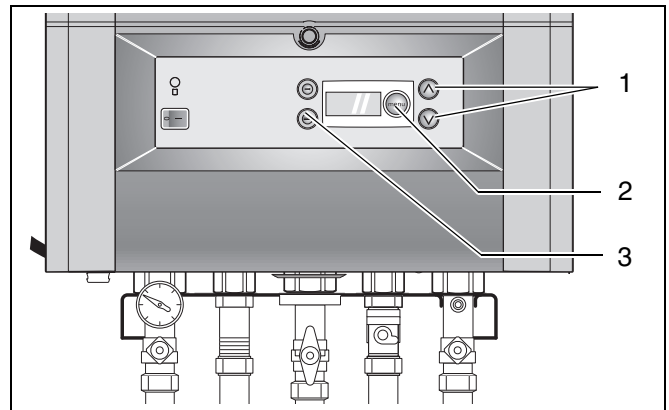

fig. 6 DBA – adjustment arrows
- Press  button (see fig. 6, item 2) twice then adjust the DHW temperature to the desired temperature (40 °C - 60 °C) using the  and  keys (see fig. 6, item 1). Factory setting is 48 °C.
- Press the  button (see fig. 6, item 2) three times. The current setting blinks.
- Press  button (see fig. 6, item 2) four times then adjust the flow temperature to the desired temperature (30 °C – 80 °C) using the  and  keys (see fig. 6, item 1). Factory setting is 80 °C.